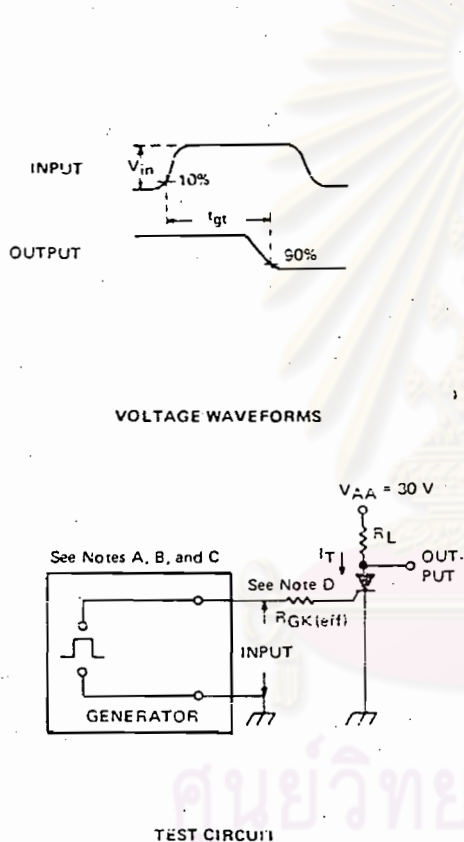

FIGURE 1 - GATE-CONTROLLED TURN-ON TIME
- The input waveform of Figure 1 has the following characteristics: $t_r \leq 40\text{ ns}$, $t_w \geq 20\ \mu\text{s}$.